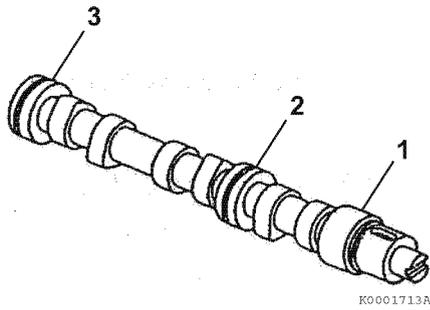

Figure 6-84
4. Measure the diameter of the gear end (1, **Figure 6-84**), intermediate (2, **Figure 6-84**), and flywheel end (3, **Figure 6-84**) bearing journals. See *Camshaft on page 6-7 for specifications*.